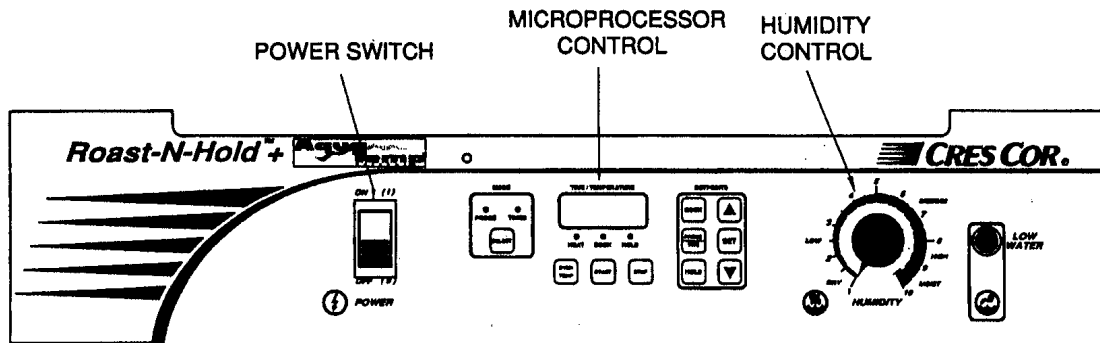

Figure 1: Control Panel
- Humidity control is on the right of the control panel. See Figure 1